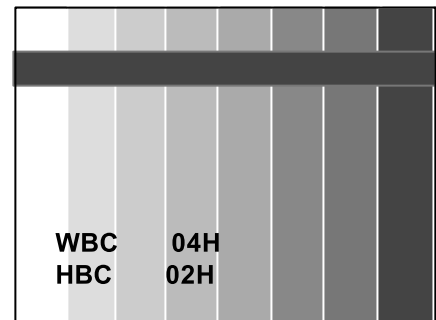

Fig.4-1
4. Press the number key, "10" on the jig remote controller once to display the SCREEN adjustment screen. (Fig. 4-1)